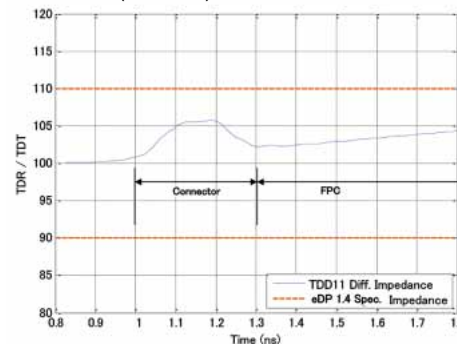

Fig.4
- By making a differential pair with the same type of contacts (even number-even number of contacts, odd number-odd-number of contacts) excellent transmission characteristics are achieved, supporting eDP (ver1.4), MIPI (D-PHY) and USB3.0 standards. (Fig.4)